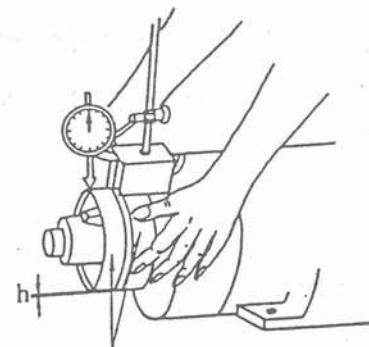

Fig. 2B
- c) Firmly set a dial guage feeler against one half coupling surface (see Fig. 2B).